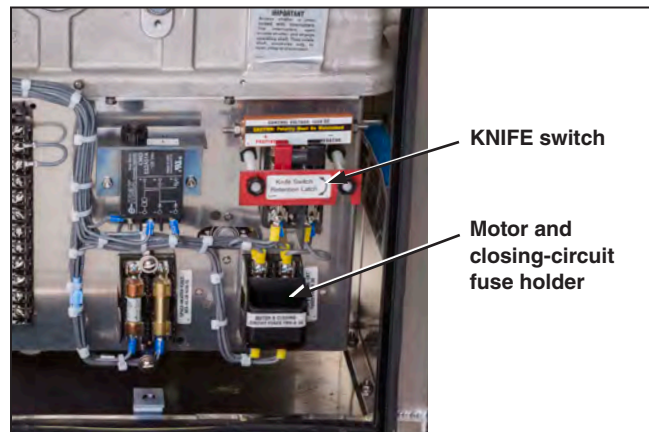

Figure 37. The motor and closing-circuit fuse holders and the control source KNIFE switch.
- Correct polarity has been observed on dc-control-voltage models (Figure 37 on page 30.)
- STEP 8.** Insert the motor and closing-circuit fuse holders. Then, close the control power KNIFE switch. Figure 37.